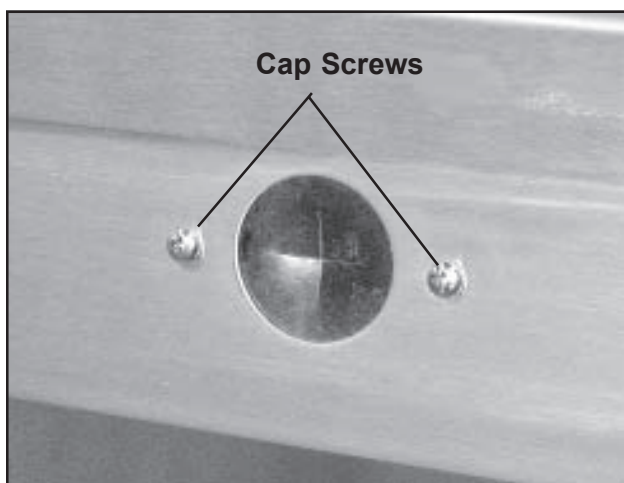

Figure 91. Removing the IV Port
2. Use a 11/32-in. wrench and a Phillips screwdriver to remove the two cap screws that hold the seal retainer in place (Figure 91) and remove the retainer from the unit.